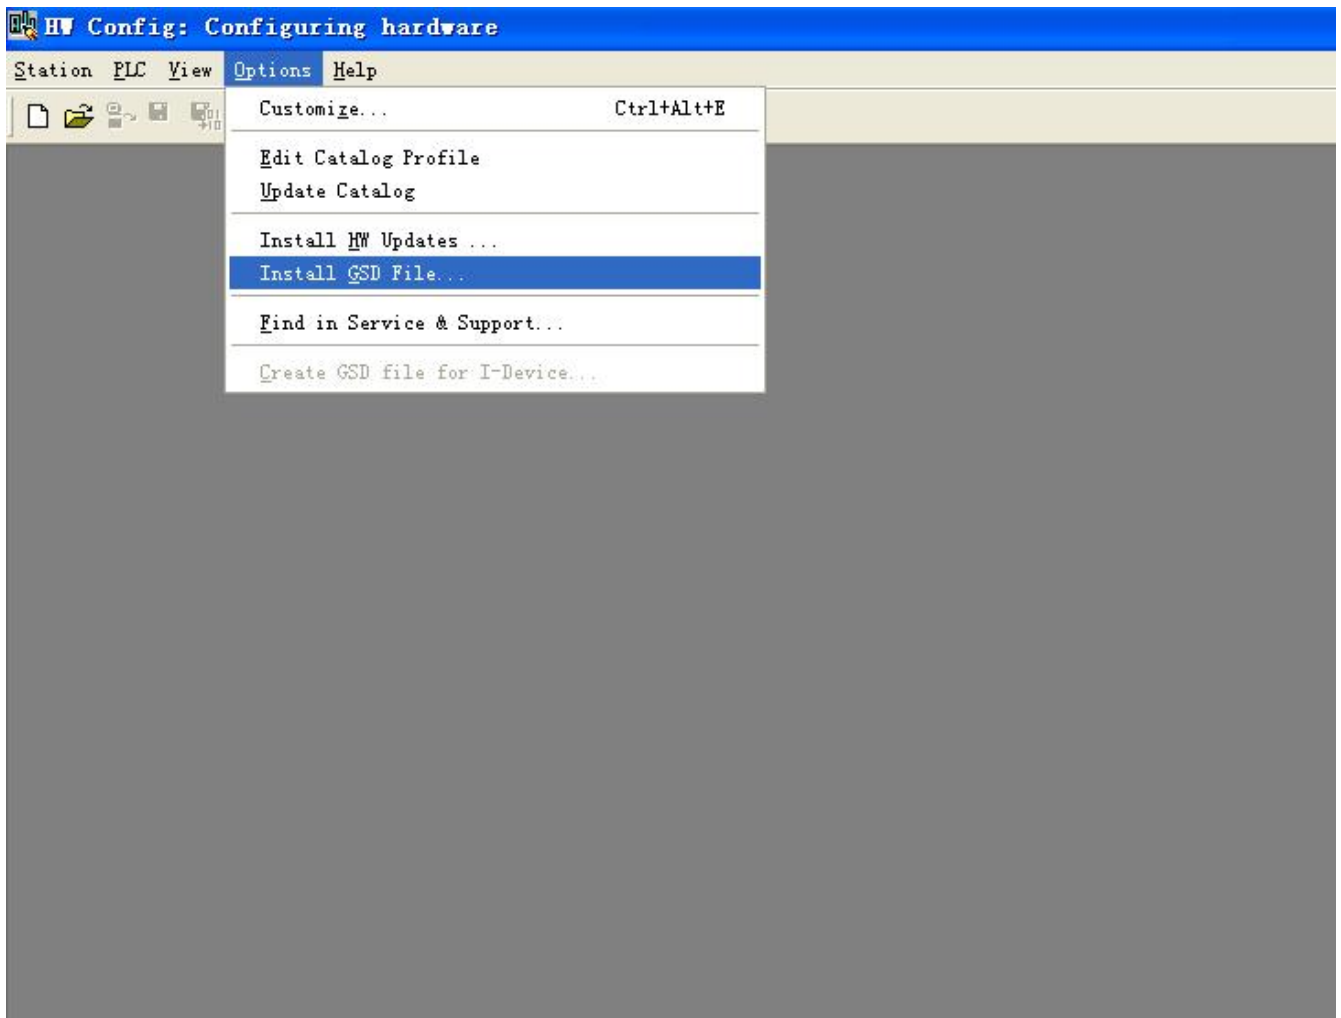

Figure 6
1. After closing the configuration window of the current project, click Options->Install GSD file, Figure 6: